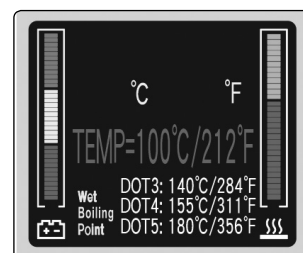

Fig.9
4.7.2. If the tester is working correctly the result will be Temp=100°C/212°F, see fig.9.